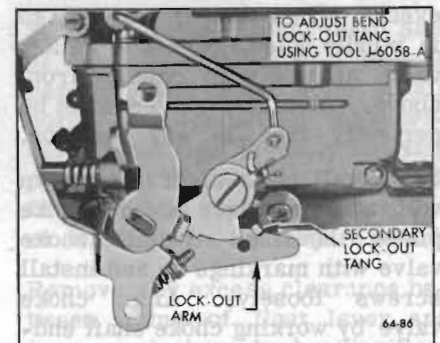

Figure 64-67—Secondary Throttle Lock-Out Adjustment
throttle at the same time. To synchronize, bend secondary operating rod. See Figure 64-67.
8. Adjust Secondary Throttle Lock-Out. Open primary throttle valves slightly to clear fast idle cam and manually open and close choke valve. Lock-out tang on secondary throttle should freely engage in notch of lock-out dog while barely missing edge of notch. If necessary to adjust bend tang on secondary throttle lever using Tool J-6058-A. See Figure 64-67.